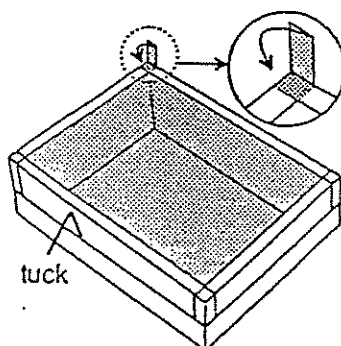

Figure 6
8. Fold these flaps down to fit down around the top of the liner and tuck them into the space between the base and the liner (see Figure 6).
9. Fold the tabs over and tuck them under the flaps of the inner box so that they obstruct the holes in the four corners (see Figure 6).